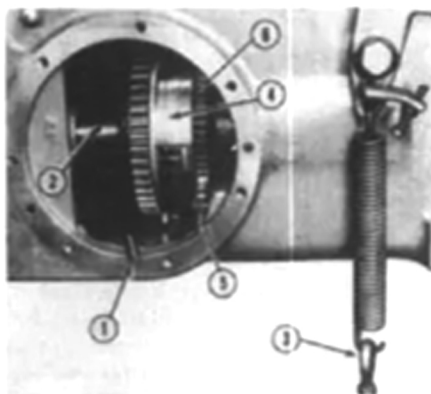

Fig. 162—Roll pin to be removed from pto clutch to pull the 1000 rpm output shaft (dual speed) or lower pto drive shaft (single speed).
128. To remove pto clutch, drain the rear main frame, then remove the side pto cover. Refer to Fig. 162 and drive roll pin (1) from the clutch and 1000 rpm output shaft (dual speed) or lower pto drive shaft (single speed). Remove the lower bearing flange on rear of main frame. Refer to Fig. 163 and remove shaft (10). If tractor is not equipped with a 1000 rpm shaft that protrudes, there will be a lower pto drive shaft located in the same position as the 1000 rpm shaft. Lower drive shaft will not protrude and will have a bearing cap. After the 1000 rpm shaft or lower drive shaft is pulled rearward, the pto clutch can be removed. Refer to Fig. 164 and using a